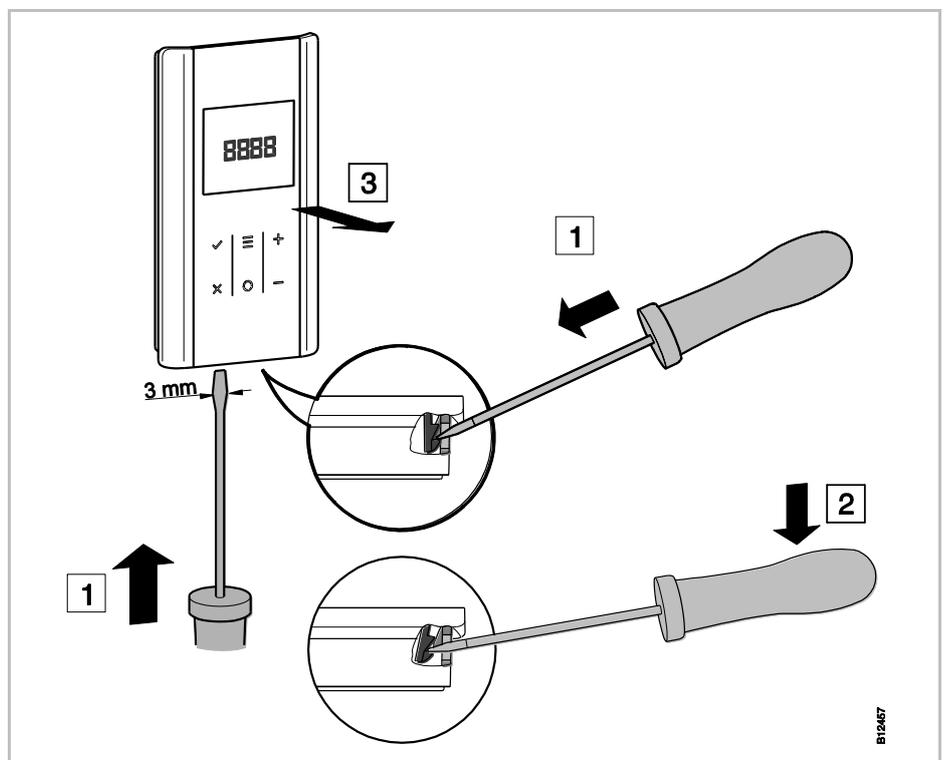

Fig. 12: Open wireless room thermostat
- ▶ Open the wireless room thermostat. → See page 31, Fig. 12.